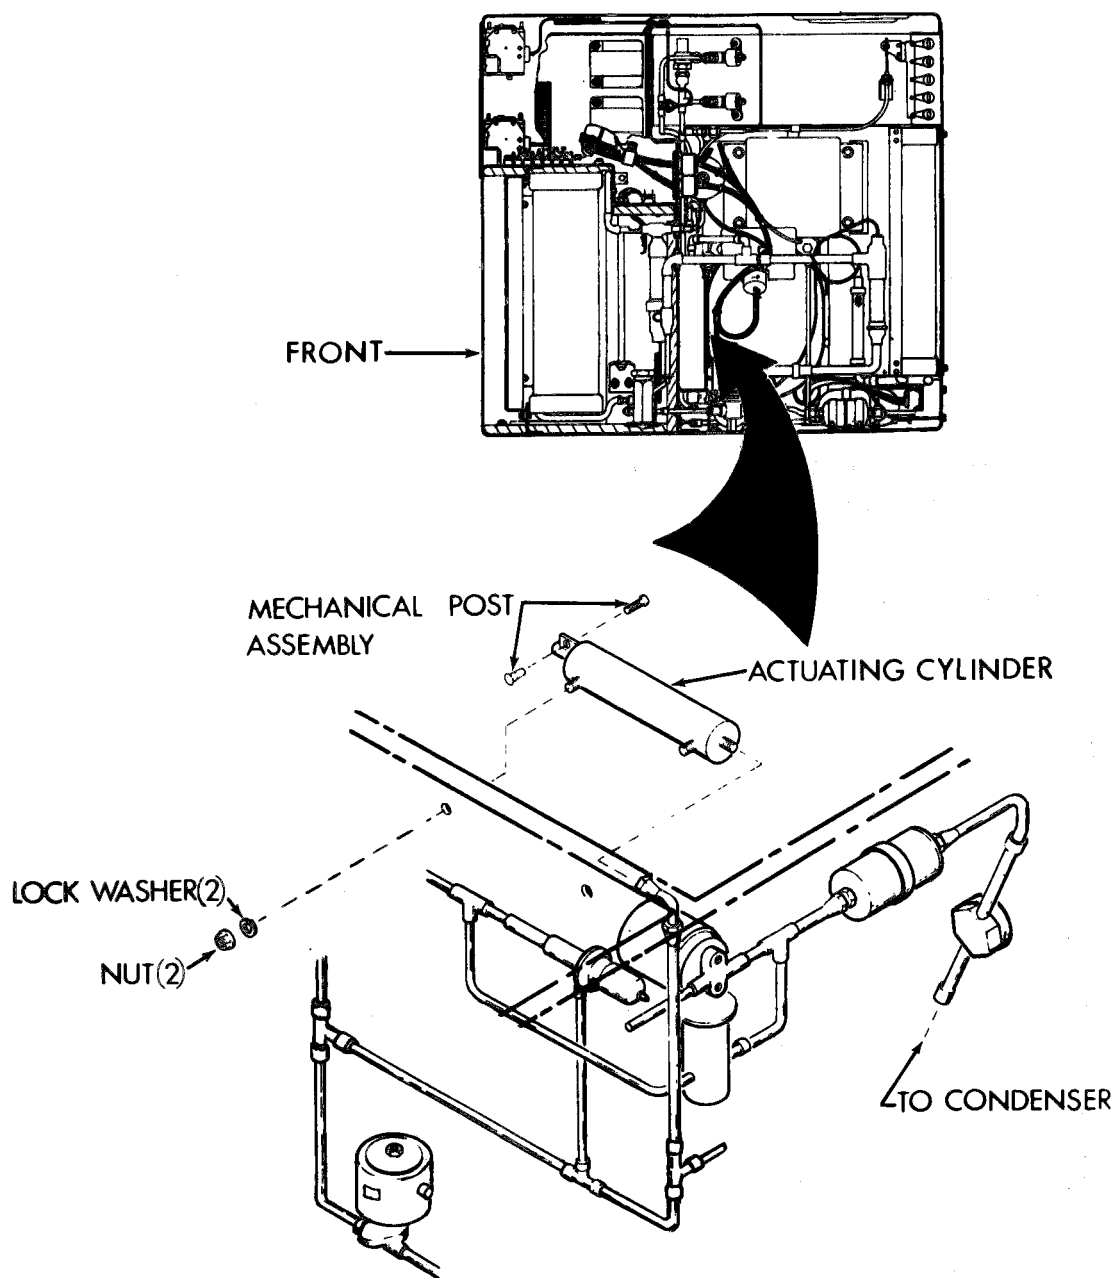

Figure 5-14. Actuating Cylinder
a. Removal. (See fig. 5-14.)
- (1) Disconnect power at power source.
- (2) Remove top front and rear covers (para 4-11).
- (3) Discharge and purge refrigeration system per paragraphs 5-11 and 5-12.
- (4) Remove screw from the mechanical post assembly and slip the push-pull cable wire loose. Take care not to lose mechanical post.
- (5) Disconnect actuator cylinder from the flare nut on elbow.
- (6) Remove two nuts and lock washers and slip actuator cylinder out of the unit.